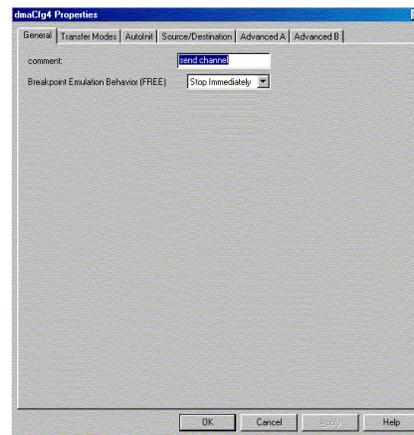

Figure 16. DMA dmaCfg4 General Tab
2. Right click on dmaCfg4 and select properties. In the *General* tab you may choose to add the comment *send channel*, as shown in Figure 16.